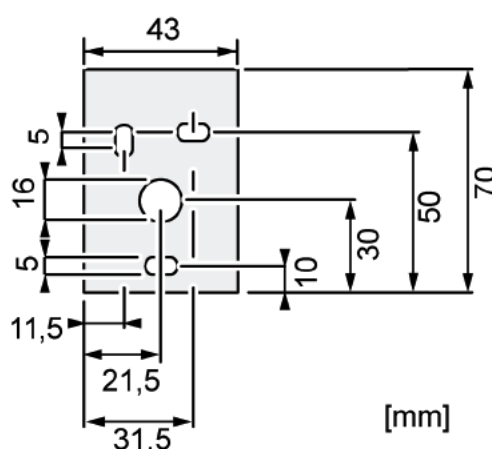

Figure 5: Template of drillholes and cable penetration
- Fasten the mounting bracket arm to the wall through the punched out boreholes (Figure 5) using suitable screws.